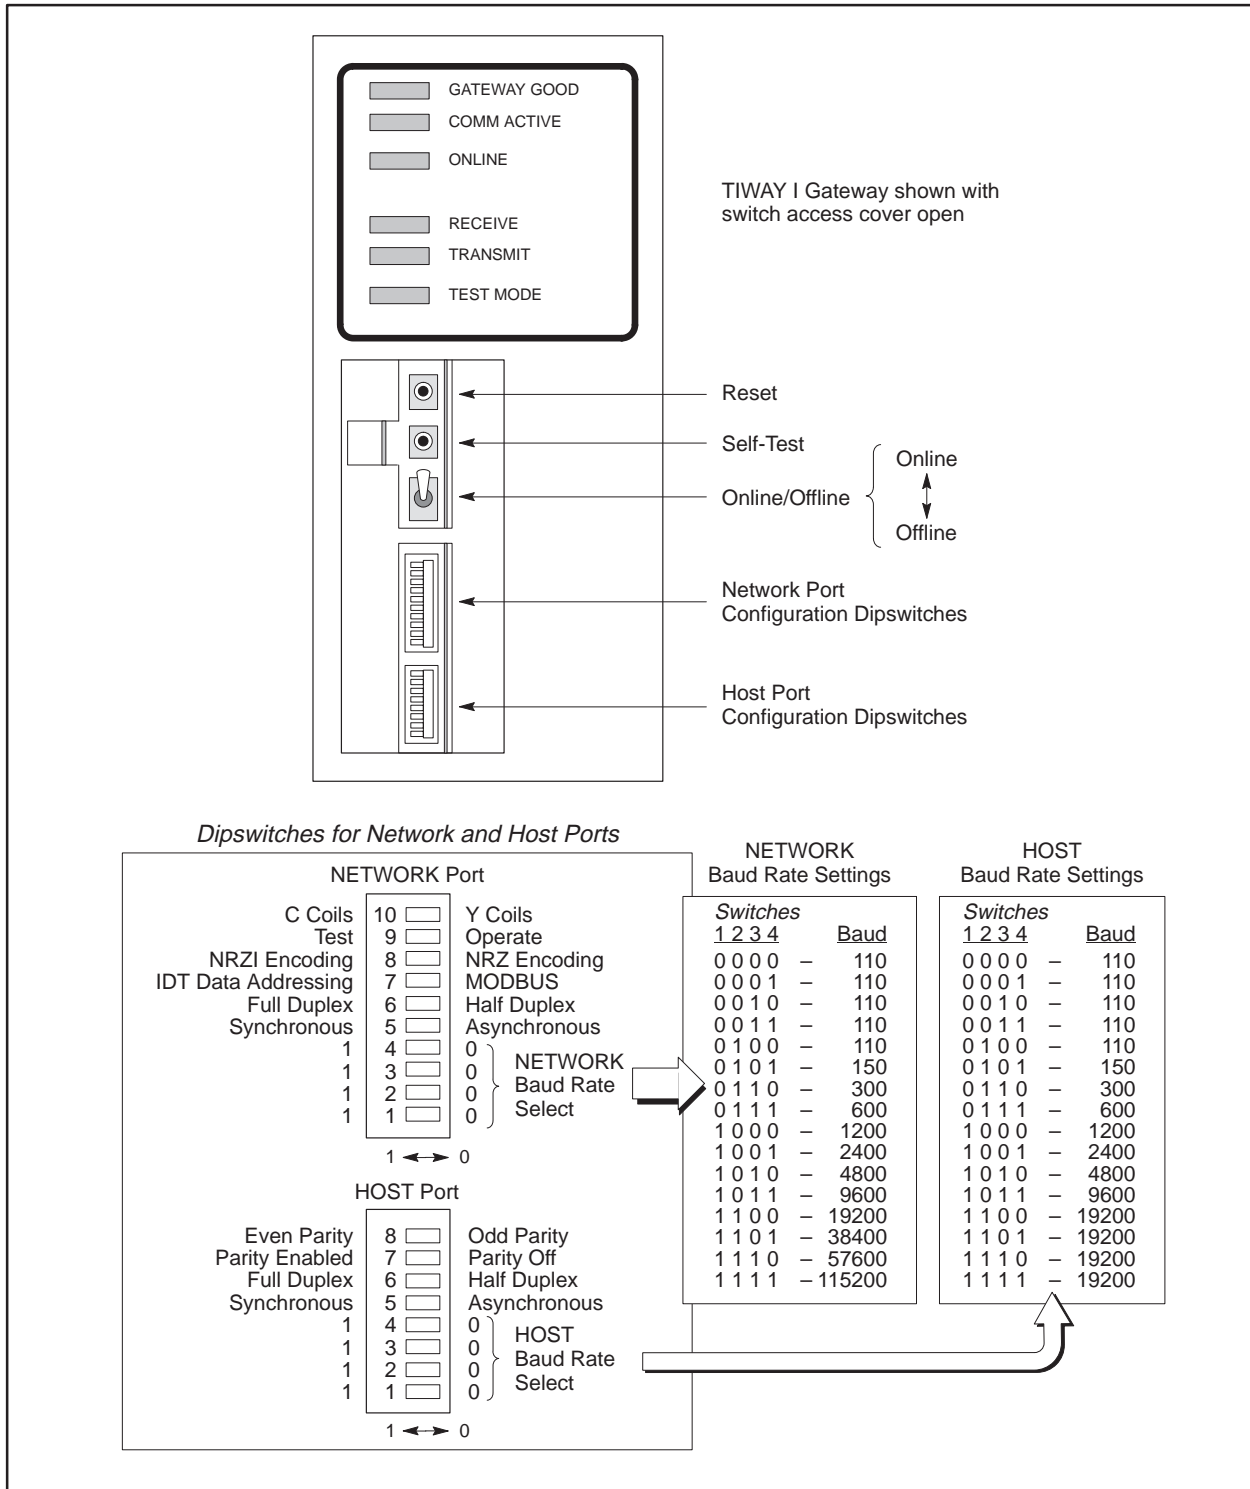

Figure 3-3 Dipswitch Settings for the Network and Host Ports
12. Set the dipswitches on the Gateway. Be sure to set the parity, duplex, and synchronous/asynchronous selections to match the corresponding settings on the host system. (See Figure 3-3 and Section 3.2.)
Data Transmission Rate Selection (Switches 1 through 4): For the host port, Table 3-3 shows what data transmission rates are supported on the listed host systems. (Refer to Figure 3-3 for the host baud rate dipswitch settings.)